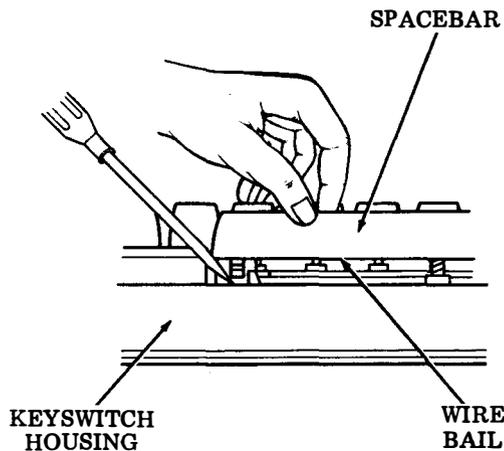

Fig. 38—Spacebar Removal
- (a) With the spacebar in the undepressed state, insert a small screwdriver into the left side slot opening of the spacebar and exert a slight counterclockwise twist of the screwdriver while grasping the spacebar and pulling upward (Fig. 38).